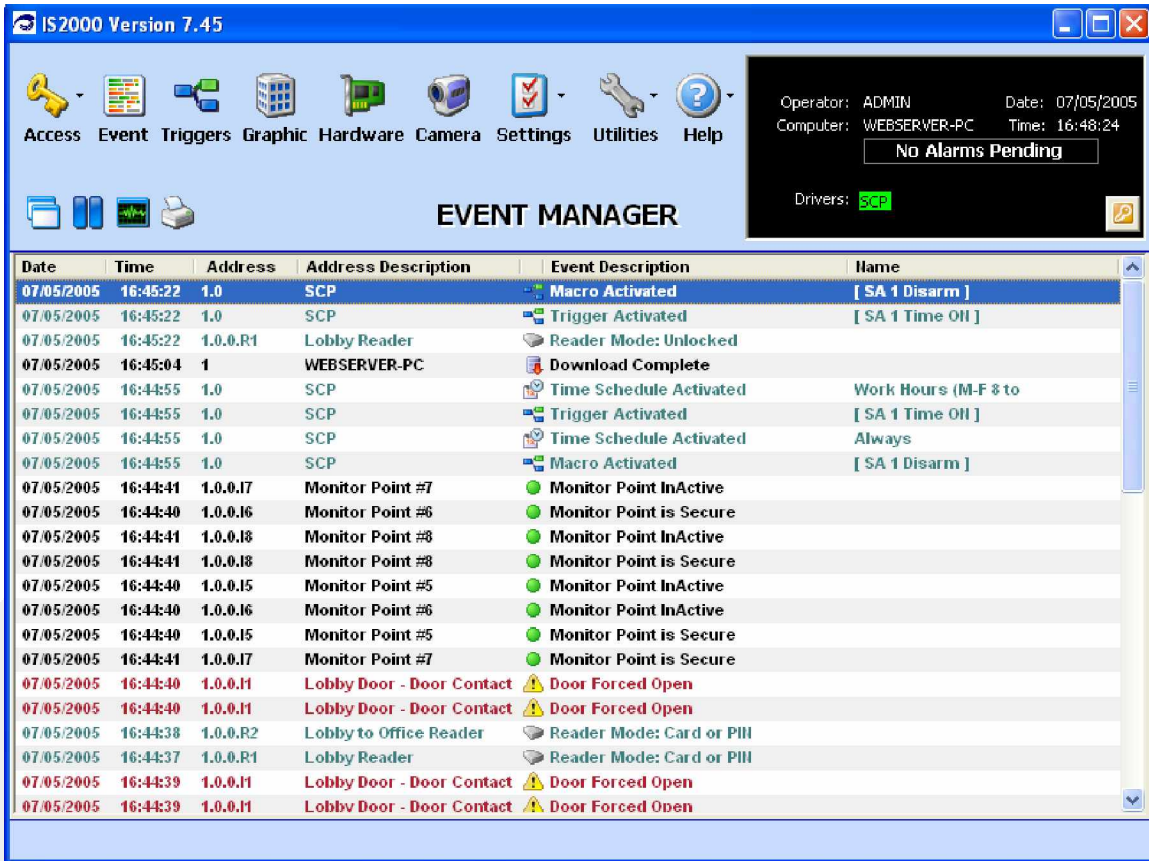

Figure 70 - Database Updated
2. Refer to Figure 70. Note the Events that were generated by the controller (SCP) when the database updates were received.